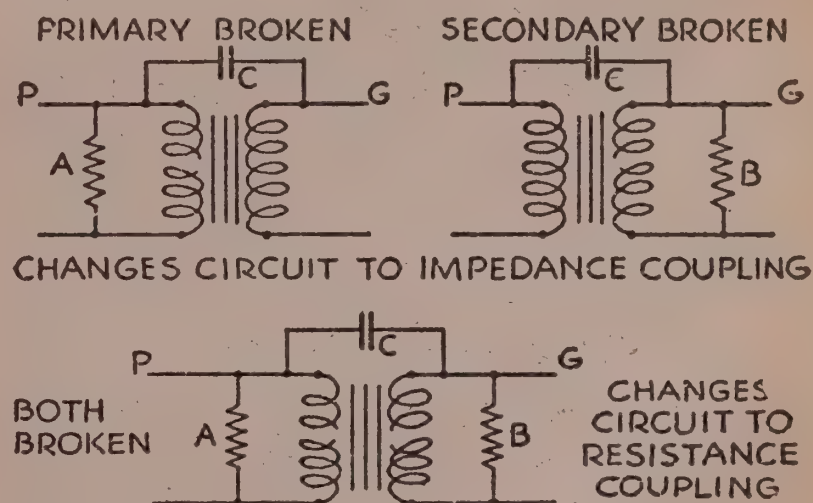

FIG. 62
**A Simple Transformer Repair:** If one or both windings of an audio transformer have gone bad, a temporary repair can be made by following the connections indicated in Fig. 62. If on test (see Chapter 4), the primary circuit proves to be open, connect a 100,000-ohm resistor (A) across